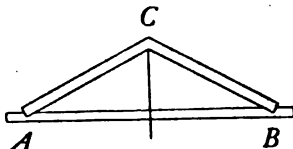

FIG. 71.—A truss.
11. A truss (see Fig. 71), carries a load of 1000 lbs. at  $C$ . Find the forces acting along  $AC$ ,  $BC$ , and  $AB$ . If  $AC$  and  $BC$  are each 12 ft. and  $AB$  20 ft., which of these forces are tensions and which are pressures?